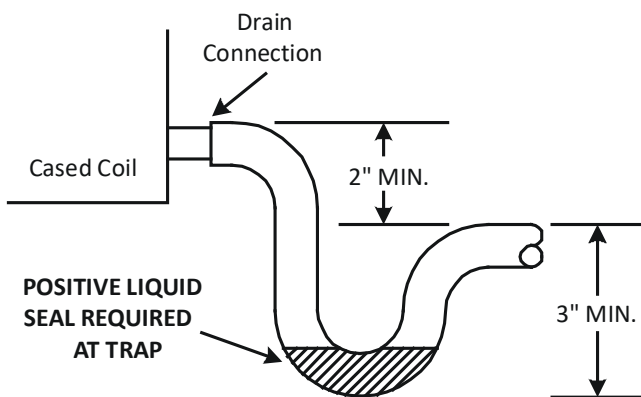

Figure 15
- The installation must include a "P" style trap that is located as close as is practical to the evaporator coil. See Figure 15 for details of a typical condensate line "P" trap.
NOTE: Units operating in high static pressure applications may require a deeper field constructed "P" style trap than is shown in Figure 15 to allow proper drainage and prevent condensate overflow.